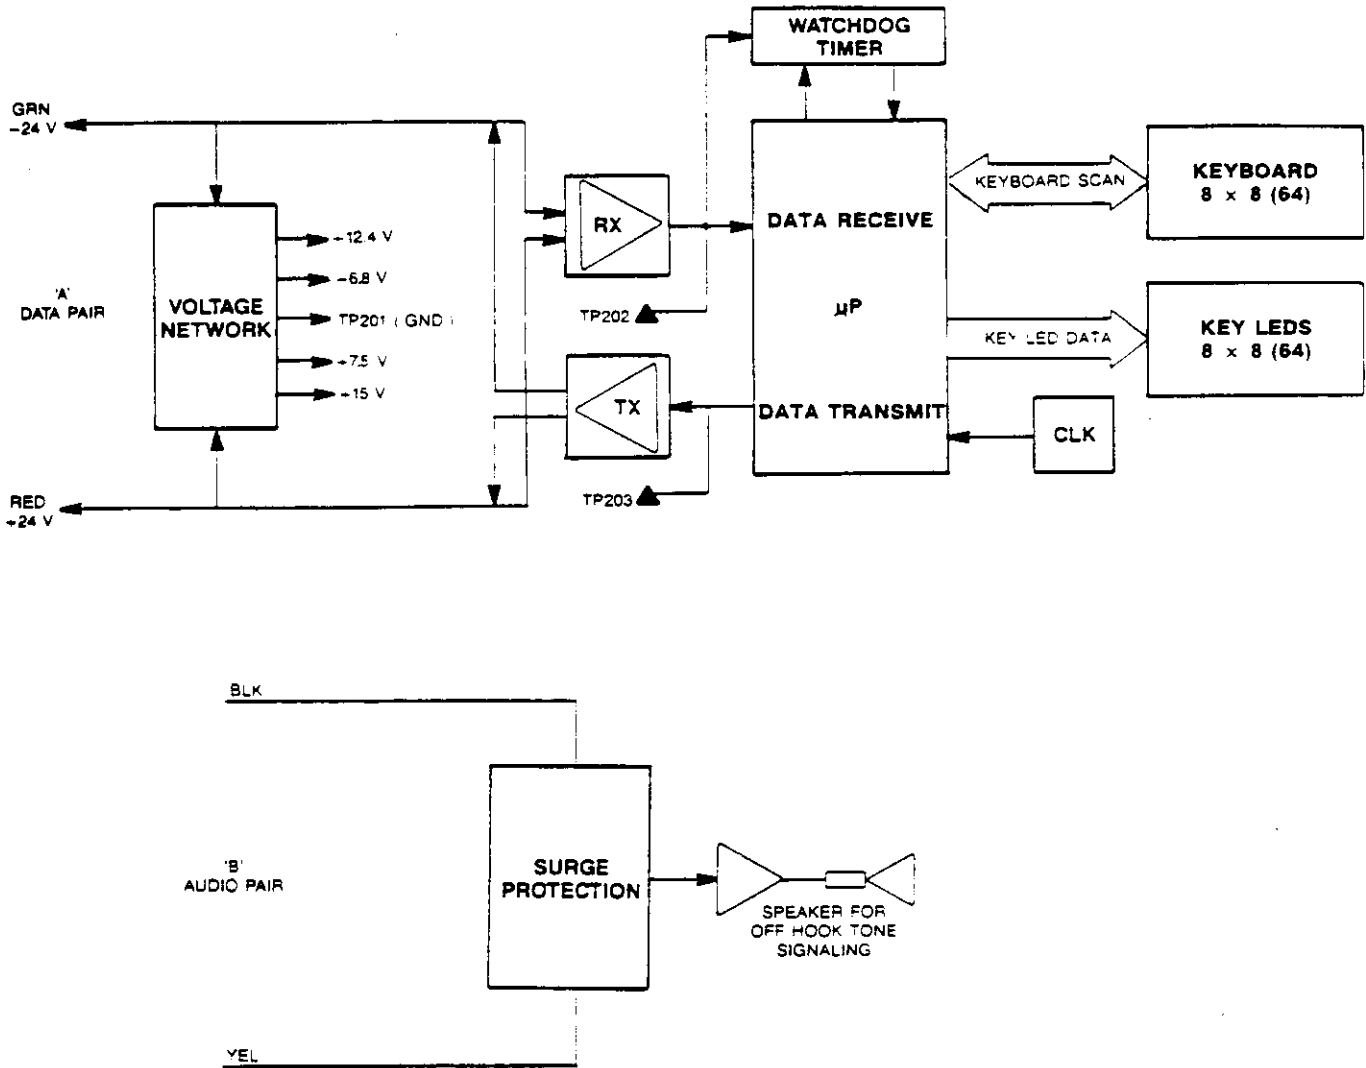
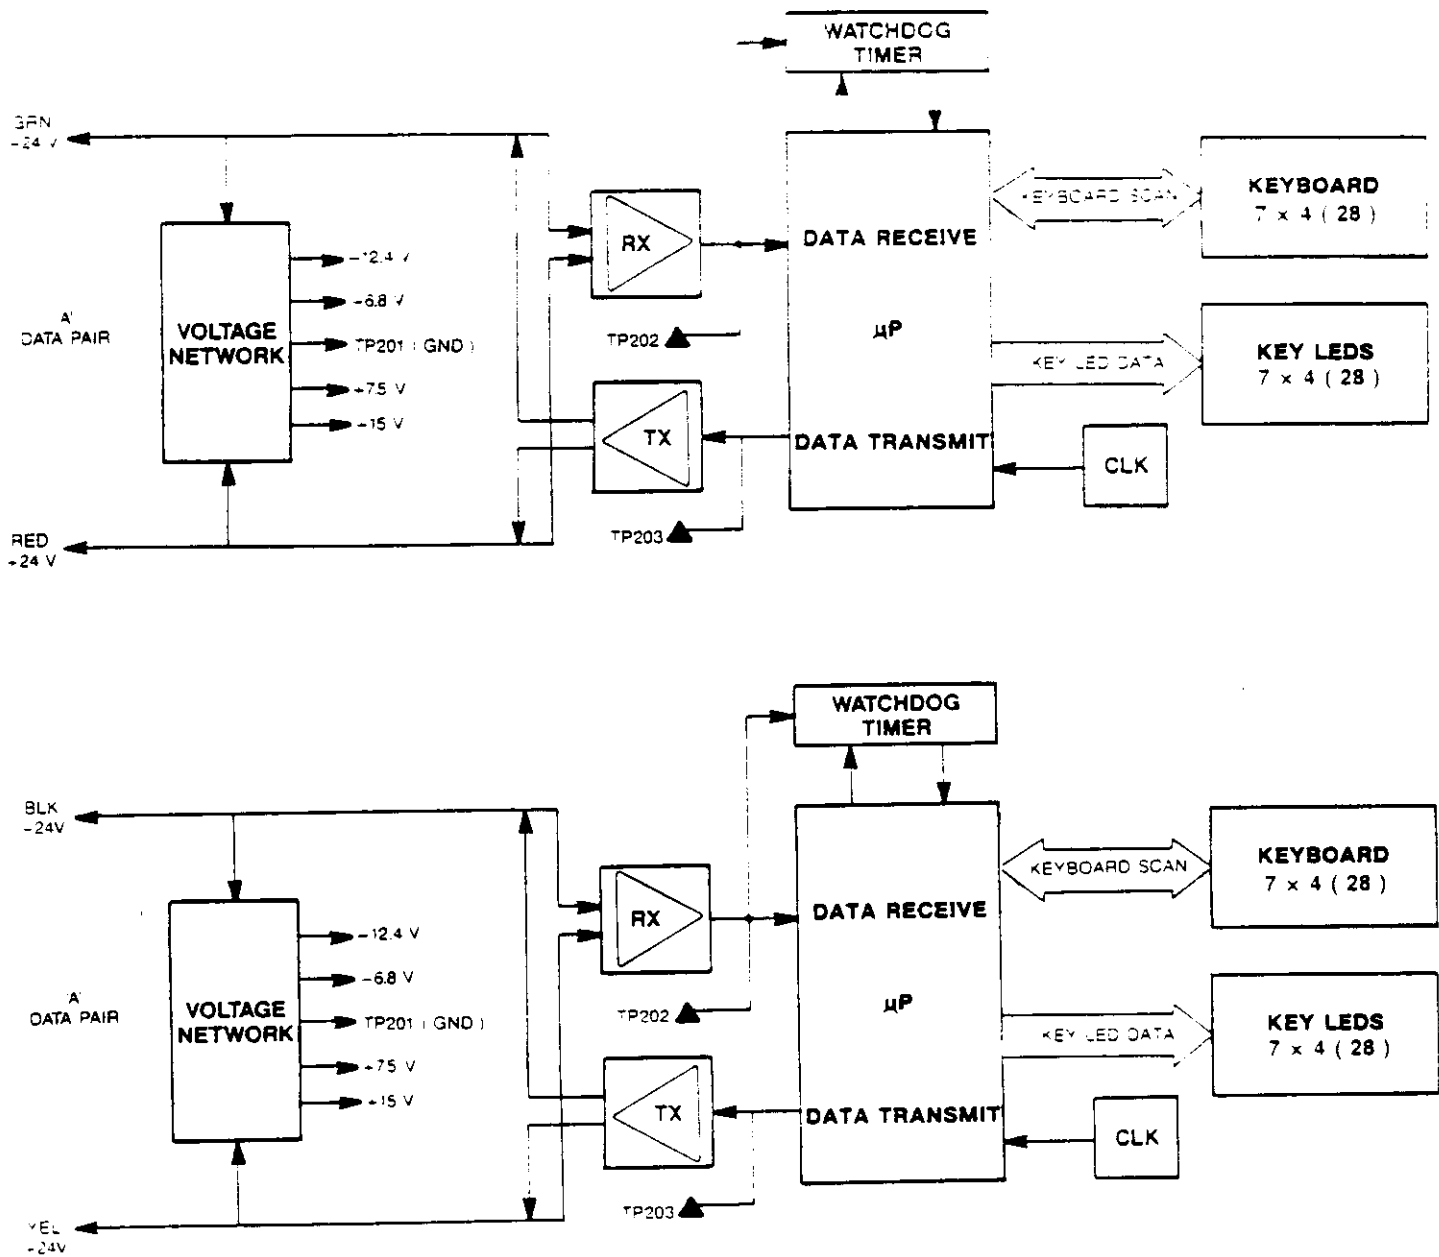

Figure 8-15 SINGLE PORT DIRECT STATION SELECTION (DSS) CONSOLE BLOCK DIAGRAM, EK-824/1232/1648
Figure 8-16 DUAL PORT DIRECT STATION SELECTION (DSS) CONSOLE BLOCK DIAGRAM, EK-824/1232/1648
4.16 The Direct Station Selection (DSS) Console is available in a single port—64 button version (Figure 8-15) or a dual port—56 button version (Figure 8-16). The microprocessor in the single port DSS and the two microprocessors in the dual port DSS, which communicate with the 6504 station processor in the B-8SCU-C PCB, function like the microprocessor in the multibutton telephone to scan the keys and light the key LEDs. The single port DSS Console also contains a speaker for off hook signaling.
4.17 Data is simplex on the A pair wires. The green wire carries -24 V from the B-8SCU-C PCB; the red wire carries +24 V. These levels are connected to a voltage network that produces the ground reference and voltage potentials used for circuit power. Data from the KSU (voltage) is detected in the Receive Data (RX) circuits and sent to the DSS microprocessor (at TP3/TP202). Data from the DSS microprocessor to the KSU (current) is sent out (at TP2/TP203) by the Transmit Data (TX) circuits. Single port DSS console data communication (Figure 8-15) uses the A pair wires of one B-8SCU-C PCB station port. Dual port DSS console data communication uses the A pair wires from two B-8SCU-C PCB station ports.